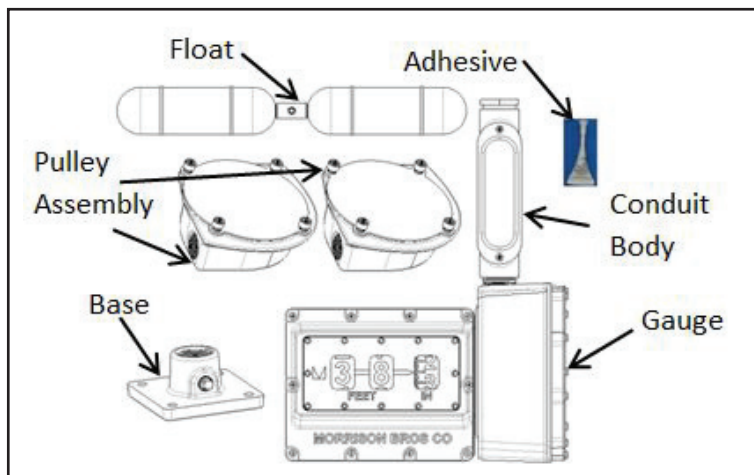

Figure 1
1. Verify contents of box. You should have received the gauge, float, pulley assemblies (2), one base and a small tube of adhesive (See Figure 1). Inspect the items for shipping damage. **DO NOT** use if damage is found. See page 7 for a list of items not supplied.